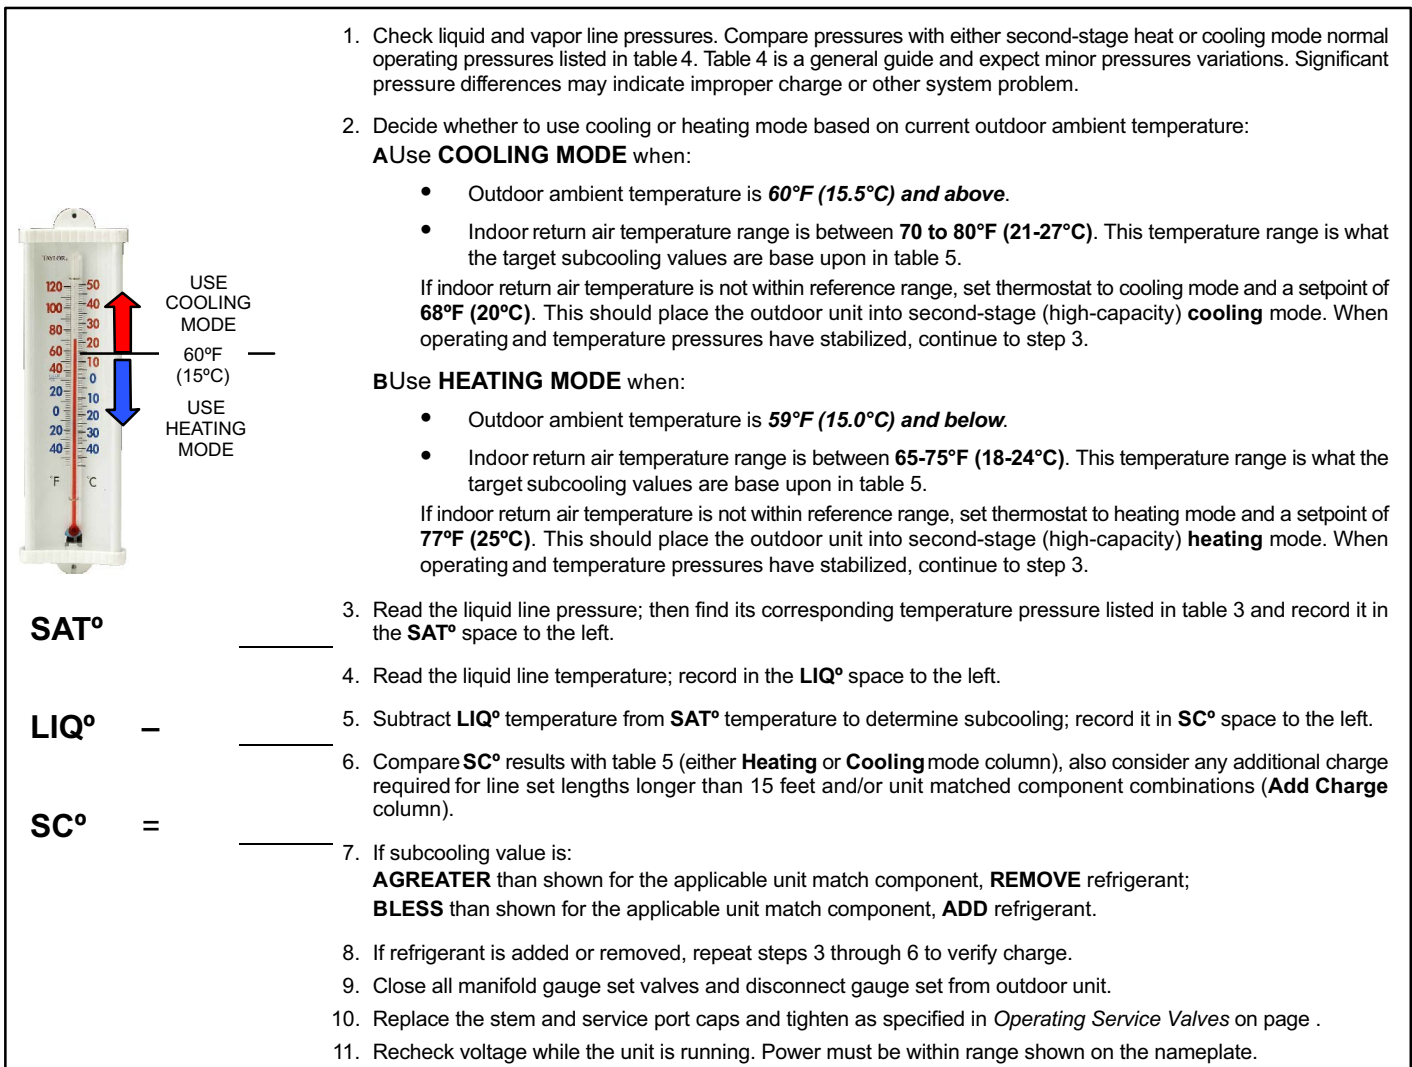

Figure 23. Using HFC-410A Subcooling Method — Second Stage (High Capacity)
5. Use **subcooling method to optimize the system charge** (see figure 23). Adjust charge as necessary.